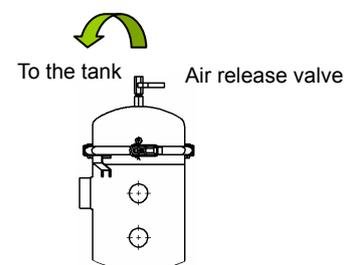

Fig. 1-2. Air release circuit
- ② Fix the feet using the foundation bolts
- ③ Check the port size and use valves and fittings which are appropriate for the operating conditions. Prevent cutting chips and sealant material from getting inside the piping when connecting. Flush piping with air before operation and check there is no abnormality such as fluid leakage.
- ④ Fix the piping to the base using a saddle so that it is not subjected to vibration or weight.
- ⑤ It is necessary to discharge fluid from the reservoir for the replacement of the element. Connect piping to the fluid outlet to discharge fluid properly.
- ⑥ Connect piping so that air can be discharged. Piping whereby a small amount of air constantly returns to the tank by a resin tube from the air release valve is helpful to release air properly. (Fig. 1-2)